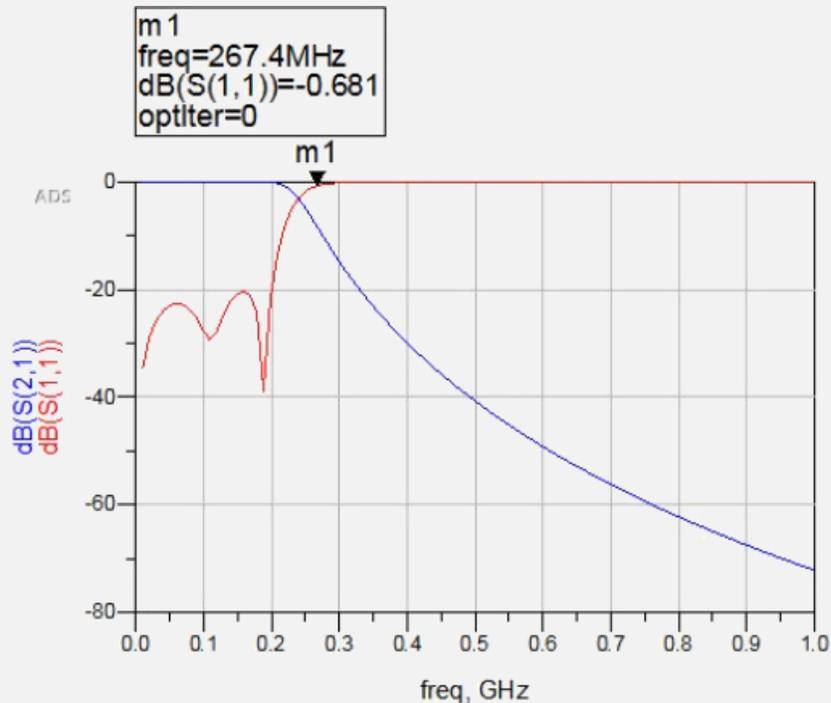

Figure 16. Plot of S(1,1) and S(2,1) for the optimized design
4. In the data display, add rectangular plots and show $S(1,1)$ and $S(2,1)$. Check the circuit performance against the optimization goals. Add markers from the Marker toolbar  to analyze the graphs. The final plot is shown in Figure 16.